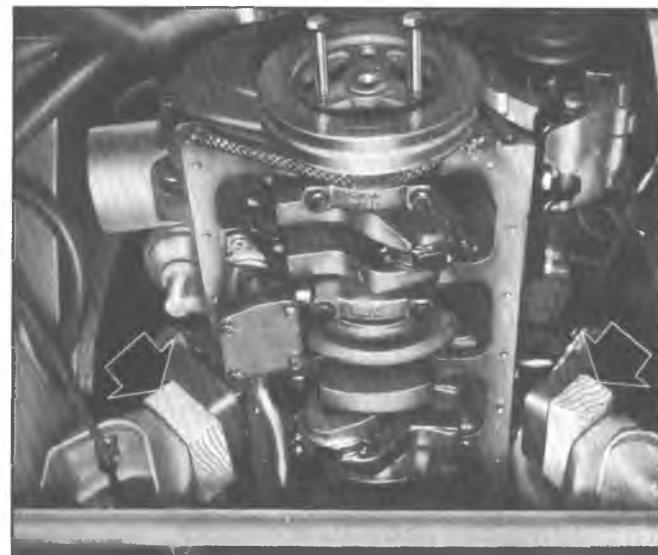

Fig. 8L—Engine Blocked for Oil Pan Removal
3. Remove bolts securing engine mounts to crossmember brackets - then, using a suitable jack with a flat piece of wood to protect oil pan, raise engine sufficiently to insert 2" x 4" wood block between engine mounts and crossmember brackets (fig. 8L).